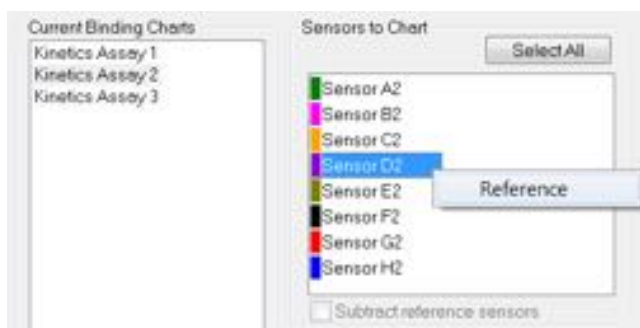

Figure 9-60: Designating a Reference Biosensor in the Runtime Binding Chart
1. In the **Sensors to Chart** list or the **Sensor Tray**, right-click a biosensor and select **Reference** (see Figure 9-60).